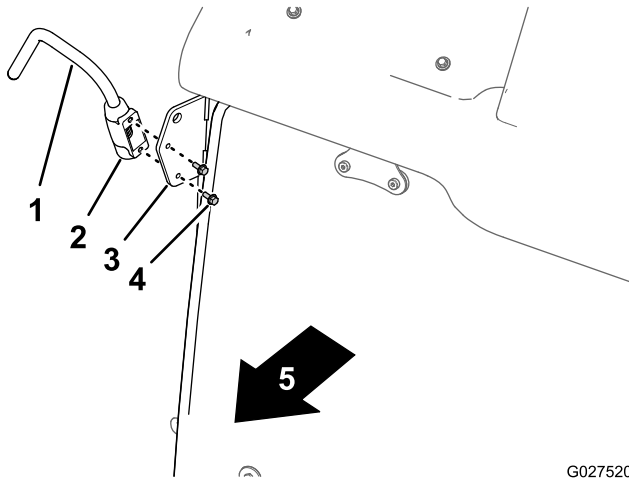

Figure 4
2. Align the mounting bracket of the support arm to the mirror bracket at pillar A of the cab (Figure 4).
3. Secure the support arm to the pillar with the 2 flange-head bolts (M6 x 16 mm) as shown in Figure 4.